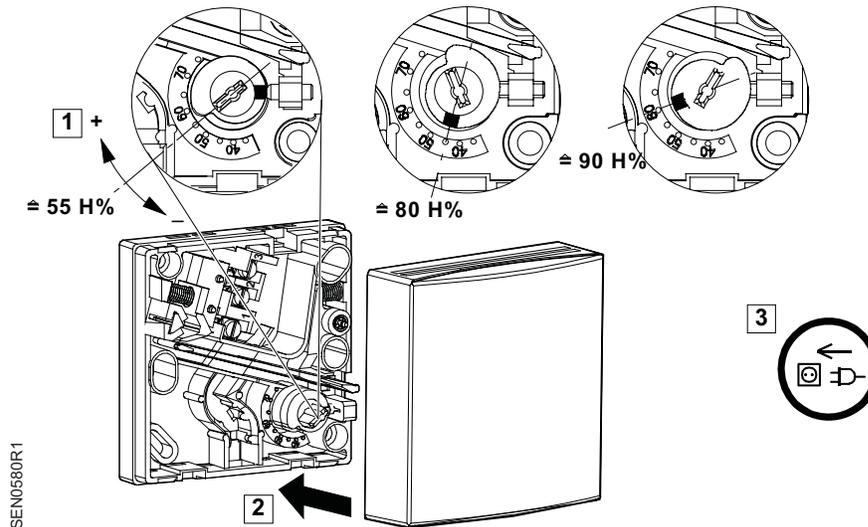

Figure 7. QFA1000 Setpoint Setting.
1. Set the humidity setpoint to the desired setting. (See Figure 7.)